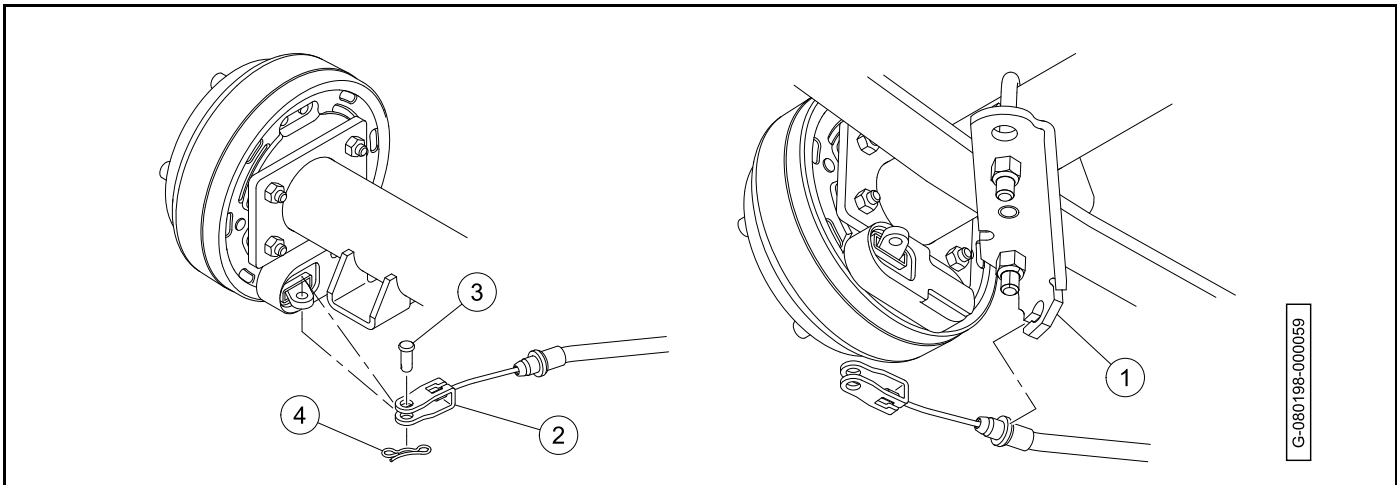

Figure 9-8
2. Install the bolt (2) and nut (3). Tighten the nut to 18.5 lb·ft (25 N·m).
4. Install the bolt (4) and nut (5). Tighten the nut to 18.5 lb·ft (25 N·m).
5. Install the shock mount bracket (6), U-bolt (7), and nuts (8). Tighten the nuts to 25 lb·ft (34 N·m).
7. Install the rubber bushing (9), cup washer (10), and nut (11). Tighten the nut until the rubber bushing expands to the size of the cup washer.
8. Install the brake cable onto the shock mount bracket (1) (Figure 9-8).